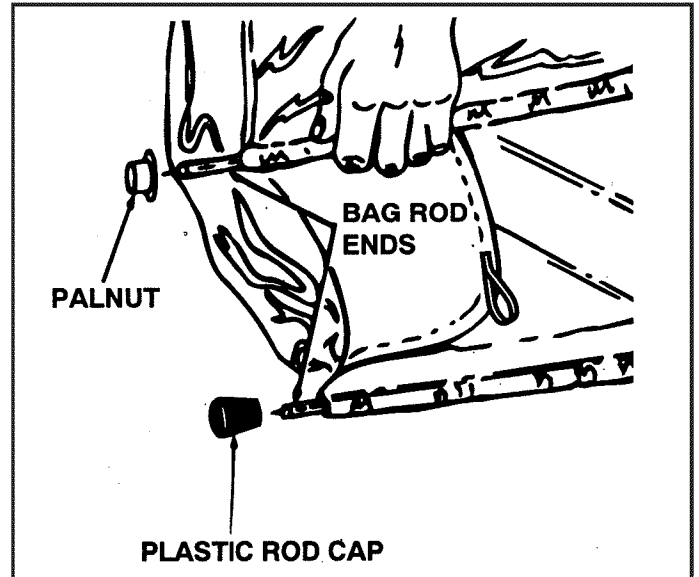

FIGURE 5
- Assemble the two plastic rod caps to the rod ends of the bottom bag rod. Assemble two Palnuts to the ends of the top bag rod. See figure 5.